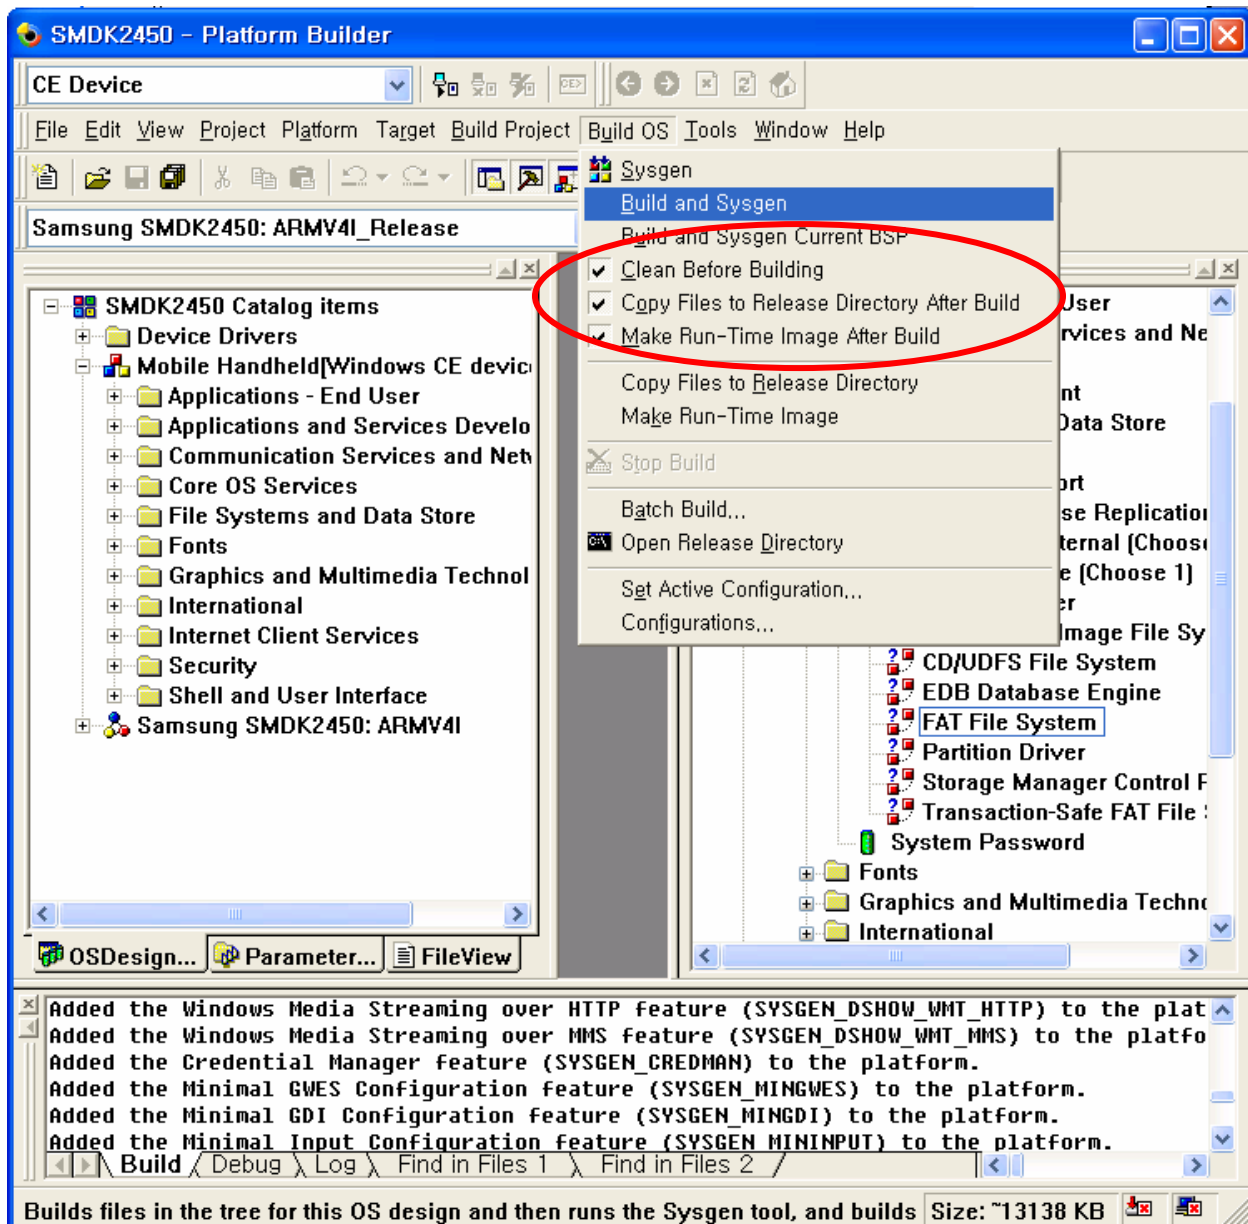

Figure 4-10 Build and Sysgen
10. On the **Build OS** menu, click **Build and Sysgen** as shown in figure 4-10 to build the **Eboot** image.